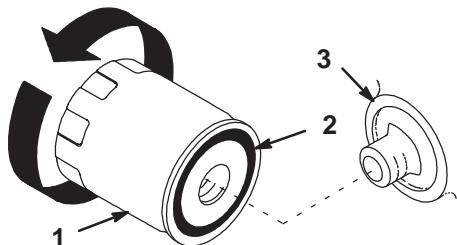

Figure 17
6. Change the oil filter, if necessary (Fig. 17).
2. Remove the old filter and wipe the filter adapter (Fig. 17) gasket surface.
3. Apply a thin coat of new oil to the rubber gasket on the replacement filter (Fig. 17).
4. Install the replacement oil filter to the filter adapter. Turn the oil filter clockwise until the rubber gasket contacts the filter adapter; then tighten the filter an additional 1/2 to 3/4 turn (Fig. 17).